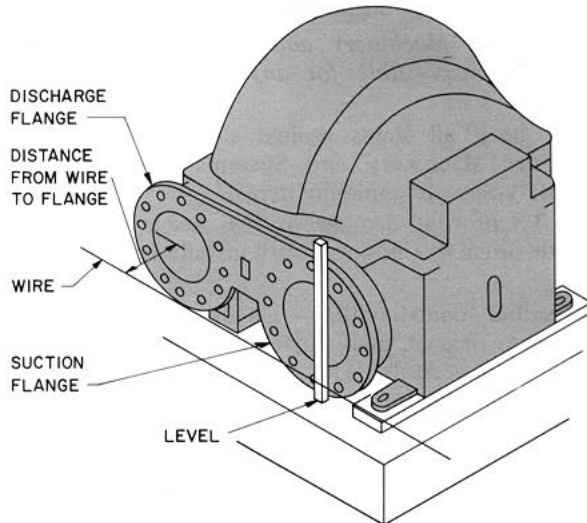

Fig. 4 – Compressor Alignment
- Figure 4 — Compressor Alignment
- A. If the suction and discharge flange surfaces are accessible as shown in Fig. 4, stretch a wire parallel to the scribed centerline on the foundation. Align the compressor so that the distance from the wire to each flange is identical.